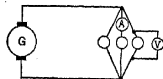

FIG. 51. Ammeter A indicates current taken by each lamp; voltmeter V indicates voltage across each lamp.
Prob. 37-2. In Fig. 51, the three lamps have practically the same resistance. Voltmeter (V) reads 100 volts. Ammeter (A) reads 0.45 ampere.